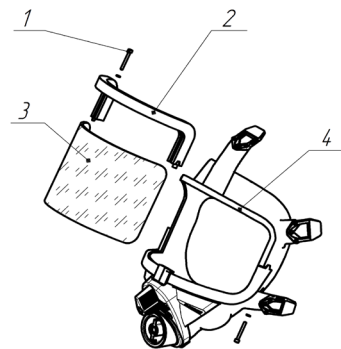

Fig. 9
1. Remove the screws (figure 9, pos. 1) from the visor frame (figure 9, pos. 2).
3. Remove the visor (figure 9, pos. 3) from the groove in the mask body (figure 9, pos. 4).